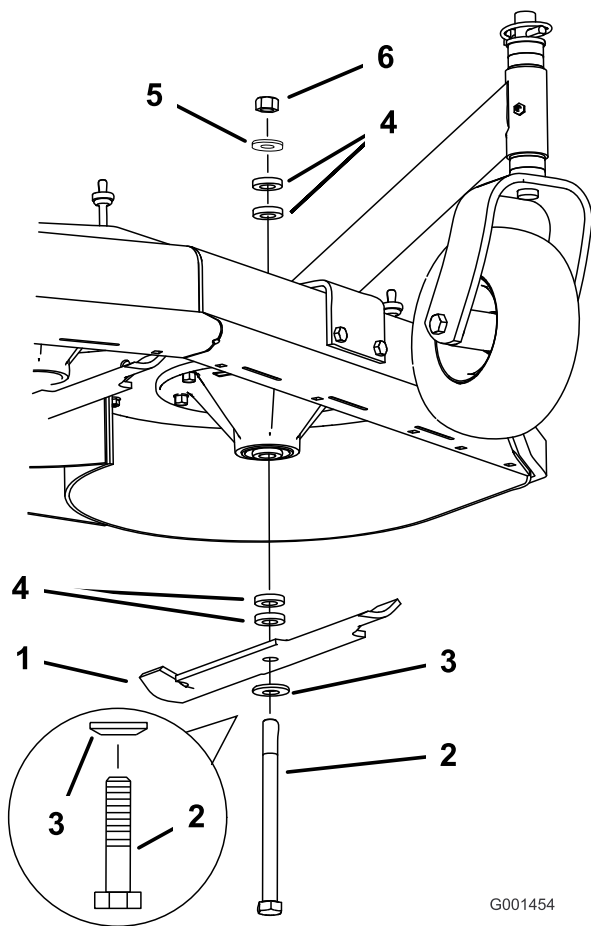

Figure 55
2. Remove the nut, blade bolt, curved washer, blade, spacers, and thin washer from the spindle (Figure 55).
1. Install the curved washer and then the blade onto the bolt. Select the proper number of spacer(s) for the height of cut, and slide the bolt into the spindle (Figure 55).
2. Install the remaining spacer(s) and secure them with a thin washer and a nut (Figure 55).